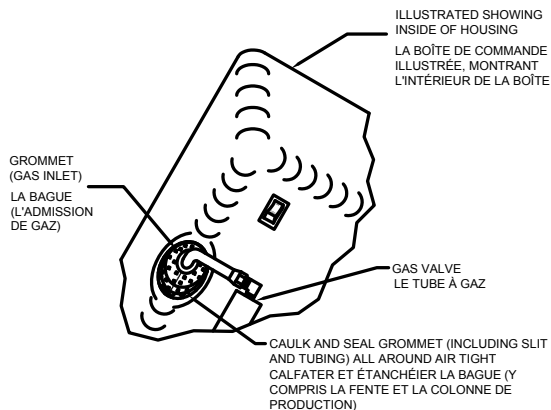

Figure 6
**WARNING!** It is imperative that grommet and gas line through grommet be caulked air tight. If not tightly sealed, moisture and potential harmful flue products could vent through opening and into living area of trailer. (See Figure 6.)